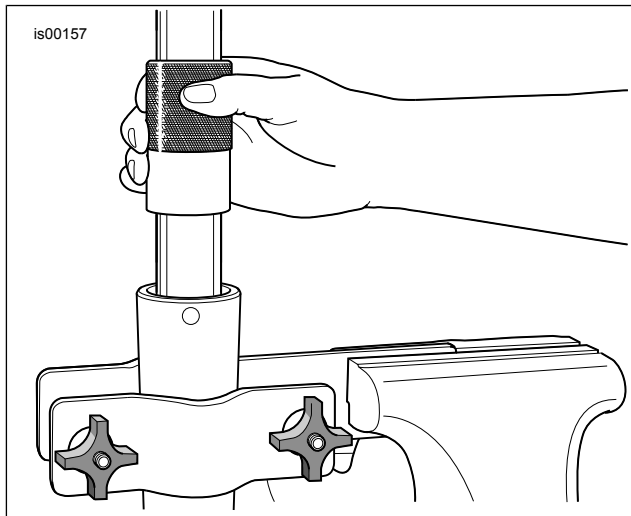
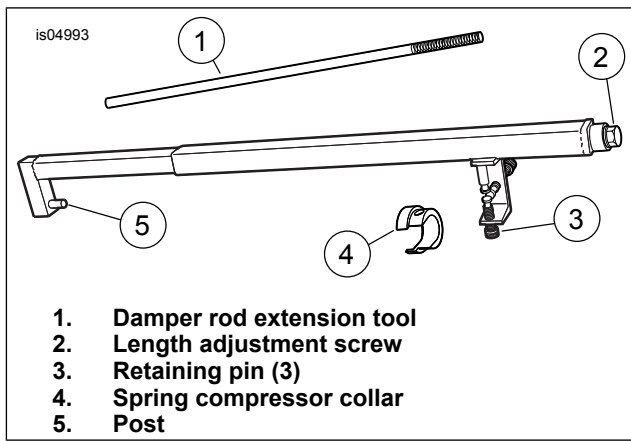
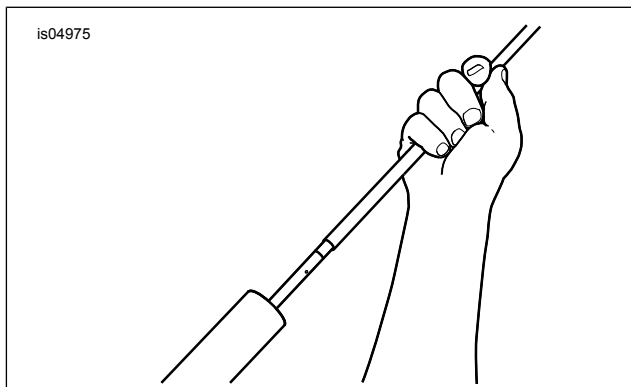
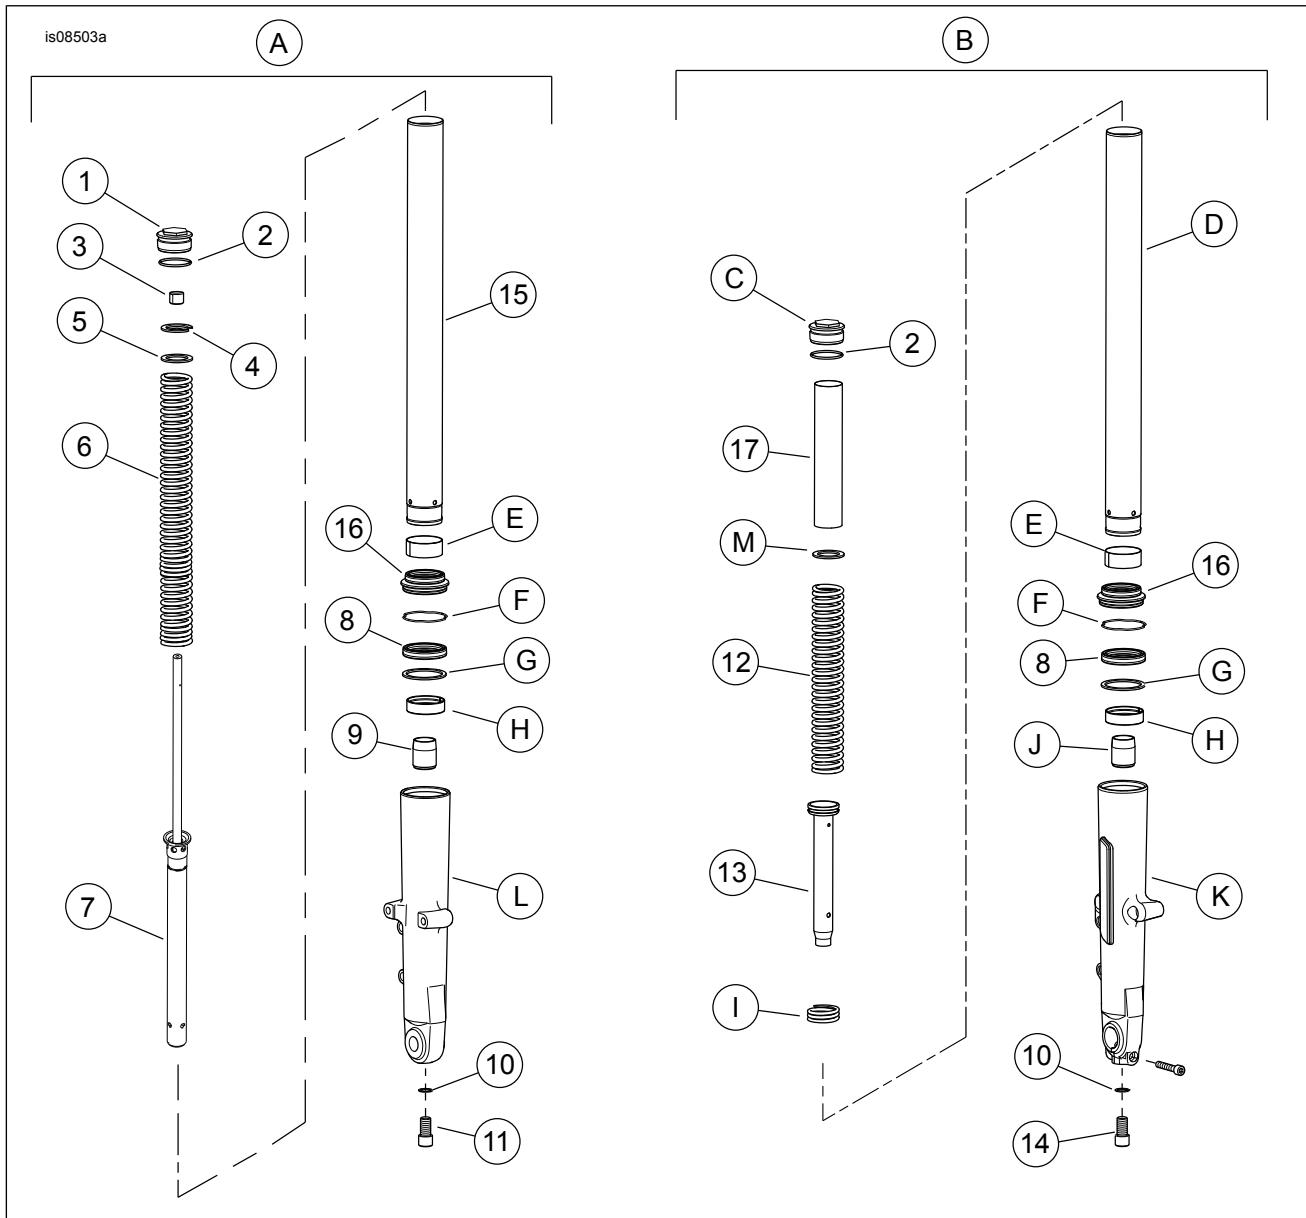

Figure 2. Install Fork Oil Seal
Figure 4. Fork Spring Compressing Tool (HD-45966)
Figure 6. Pump Damper Rod Extension Tool
Figure 7. Service Parts: Dyna Cartridge Front Fork Kit
2. Insert spring (12) and spring collar (17) into fork tube, with dense section of coils toward damper tube. Push bottom of damper tube through the opening at the bottom end of the fork tube. Place oil lock (J) over end of damper tube.
3. Apply Loctite 565 Thread Sealant to screw (14). Position fork tube and damper tube in fork slider (K). Hold the assembly in place by exerting pressure on the spring. Install screw (14) with copper washer (10) from kit.
5. Coat inner diameter (ID) and outer diameter (OD) of slider bushing (H) with clean fork oil. Slide slider bushing down fork tube (either direction).
6. Slide slider washer (G) down fork tube until it contacts slider bushing (either direction).
7. Coat the ID of the **new** fork oil seal (8) with clean fork oil. Coat the OD of the fork oil seal with Harley-Davidson Seal Grease. With the lettering side facing up, slide fork oil seal down the fork tube until it contacts the slider washer.
8. See Figure 2. Obtain the Fork Seal/Bushing Tool (HD-45305) and proceed :
- b. See Figure 2. Using the tool like a slide hammer, drive fork oil seal (with slider washer and slider bushing) down the fork tube until retaining clip groove is visible in fork slider ID.
- b. See Figure 7. With the fork bolt upward, clamp fork tube (D), between rubber pads on inboard side of tool. Tighten knobs until fork tube is securely held.
1. See Figure 7 Assembly (A). Clamp the fork tube (15) up-side down in the fork tube holder. Insert tapered end of the **new** oil lock (9) in the end of the fork tube. Slide fork slider over the fork tube.
2. Keep the fork compressed and remove it from the fork tube holder. Clamp the fork slider right-side up in the fork tube holder. Slide the damper cartridge (7) into the fork assembly so that it seats in the center of the oil lock.
4. Apply Loctite 565 Thread Sealant to screw (11). Install screw with copper washer (10) from kit. Slide screw through hole at bottom of fork slider and start into end of damper cartridge.
6. Install **new** fork spring (6) into fork tube (15), with dense section of coils toward damper cartridge.
9. Coat slider bushing (H) ID and OD with clean fork oil. Slide slider bushing down fork tube (either direction).
10. Slide slider washer (G) down fork tube until it contacts slider bushing (either direction).
11. Coat the ID of the **new** fork oil seal (8) with clean fork oil. Coat the OD of the fork oil seal with Harley-Davidson Seal Grease. With the lettering side facing up, slide fork oil seal down the fork tube until it contacts the slider washer.
12. See Figure 2. Obtain the Fork Seal/Bushing Tool (HD-45305).
- c. Slide the retaining clip (F) down the fork tube until it contacts the fork oil seal. Install retaining clip in the fork slider groove. Do not expand or stretch retaining clip to install on fork tube or clip may be damaged.
13. Install dust seal (16).
- a. See Figure 6. Thread extension tool onto end of damper rod.
18. See Figure 4. Install fork spring compressing tool:
- a. Clamp tool in vise in a vertical position with length adjustment screw (2) upward.
- b. Place hole at bottom of fork slider over post (5) at bottom end of tool.
- c. Place flat washer (Item 5, Figure 7), over the damper rod extension tool and on top of spring. Place spring seat (Item 4, Figure 7), concave side up, on top of the flat washer. With the smaller OD upward, place spring compressor collar (item 4, Figure 4) over spring seat and flat washer.
- d. Adjust tool as necessary until three retaining pins (3) engage blind holes in spring compressor collar (4). Turn length adjustment screw counterclockwise to lengthen and clockwise to shorten.
21. See Figure 7. Install **new** jamnut (3) with non-threaded end over the damper rod first. Thread onto damper rod until it bottoms out on the shoulder.